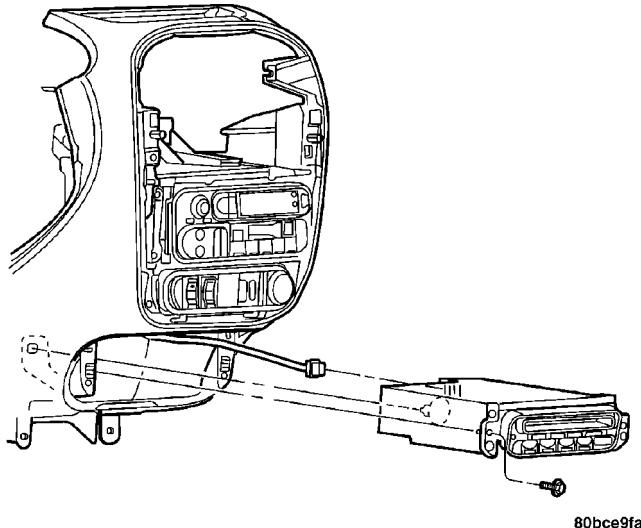

Fig. 3 CD Changer Remove/Install
(3) Remove two retaining screws to CD changer (Fig. 3).
(4) Pull CD changer out of instrument panel and disconnect harness connector from rear of changer (Fig. 3).